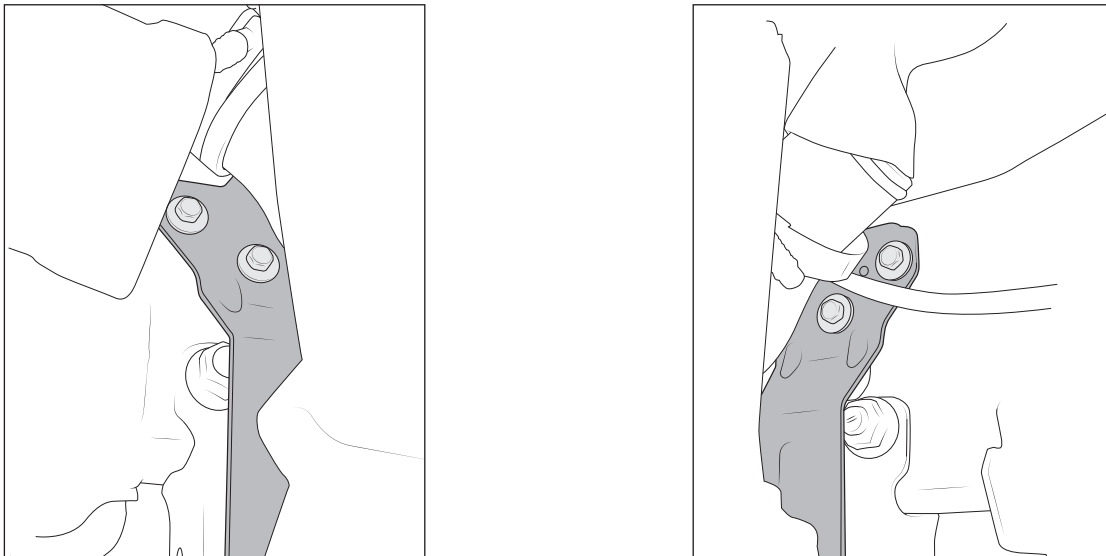

Figure 11
15. Remove the intercooler bolts (fig. 11).